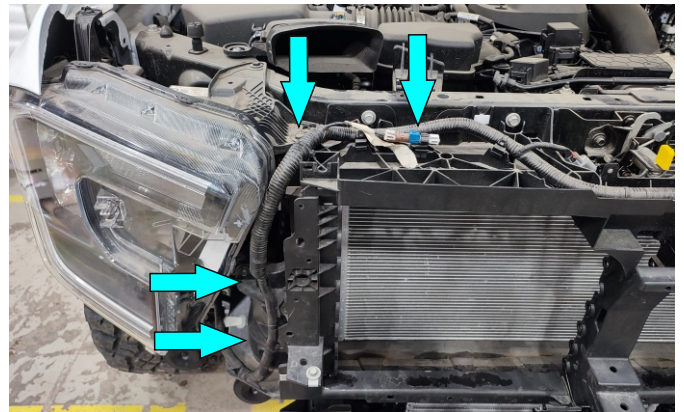

Fig.22
21. Cut the cable ties that secure the wiring (fig. 22).